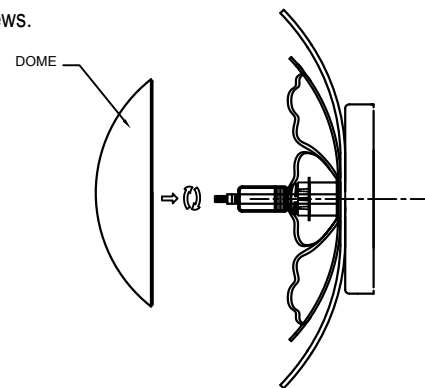

FIGURE-03
- Mount the dome. (See Figure-03)